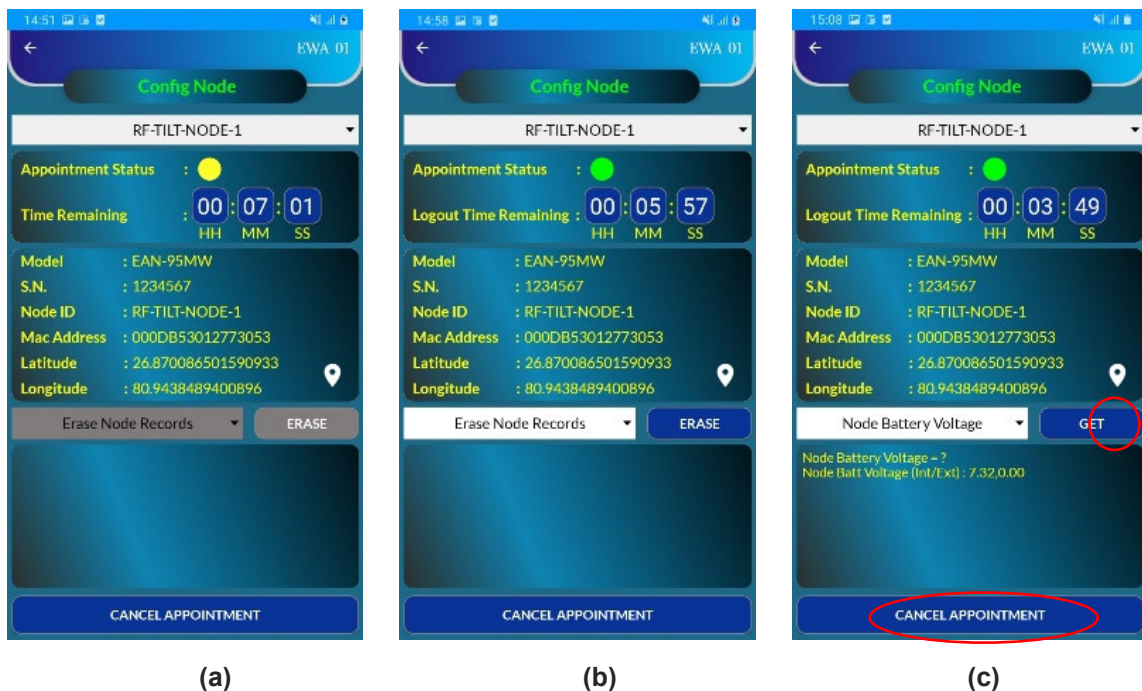

Figure 7-5
- Upon successfully raising the appointment request, the screen as shown in figure 7-5 (a) will appear. It will indicate the remaining time until the node becomes live.
- As the appointed time approaches, the appointment status will turn green, as shown in figure 7-5 (b).
- Once the node becomes live, it will be able to respond to the requested commands, as shown in figure 7-5 (c).